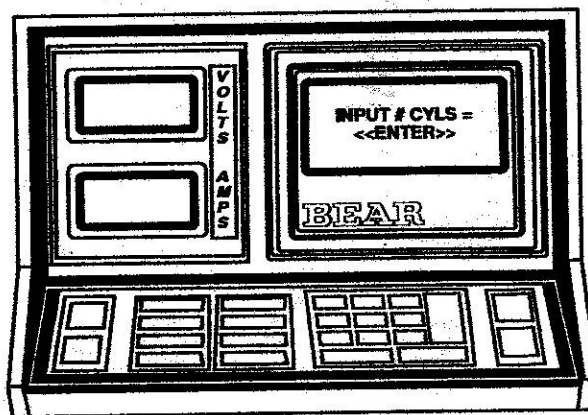

Figure 9
- A. Press [STARTING TEST]. The display reads "INPUT # CYLS" (see Figure 9). Type in the vehicle's number of cylinders on the numeric keypad and press [ENTER]. (The computer accepts numbers from 2 to 12.)